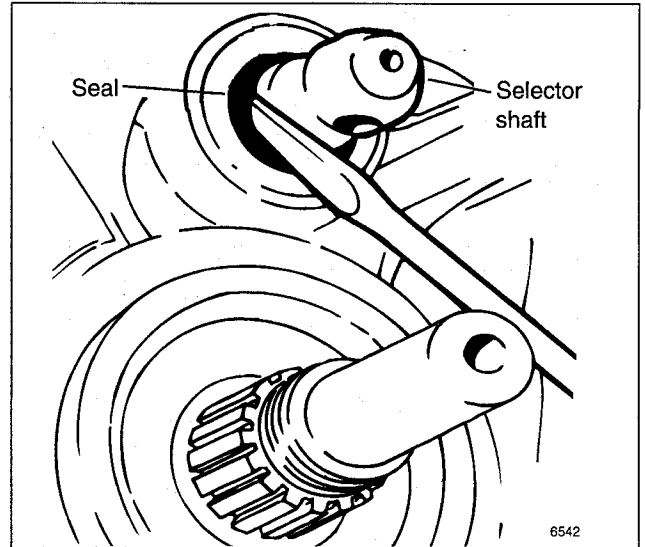

Fig. 3. Selector shaft oil seal being pried out with screwdriver.
6. Carefully pry seal out with a narrow seal remover or small screwdriver. See Fig. 3.